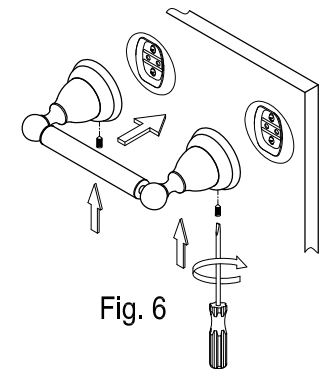

Fig. 6
- Step 6. Place the unit, with the small hole in the base underneath, over the mounting plate by tightening the slotted set screws with a flat head screwdriver until the base is tightly fixed (fig 6).
- Step 5. Place the unit, with the small hole in the base underneath, over the mounting plate by tightening the slotted set screw with a flathead screwdriver until the base is tightly fixed (fig 6).